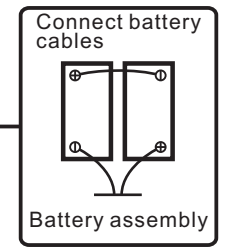

fig.4
- 3.Connect the batteries with suitable cable(fig.4): connect the cathode to the anode as shown. And the left two cables connect to the battery socket.